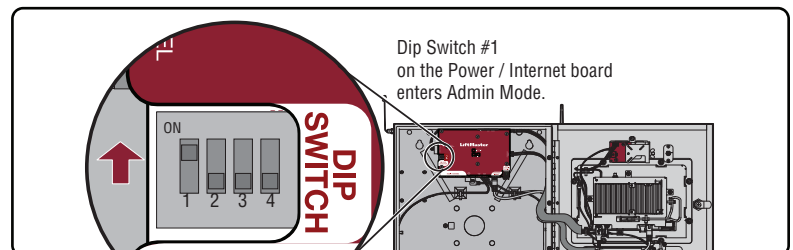

Figure 3. Admin Mode.
9. Enter CAPXL Admin Mode using the #1 dip switch. Select the "Audio / Video" tab and confirm the video feed appears, the angle and orientation is correct. (Figure 3)